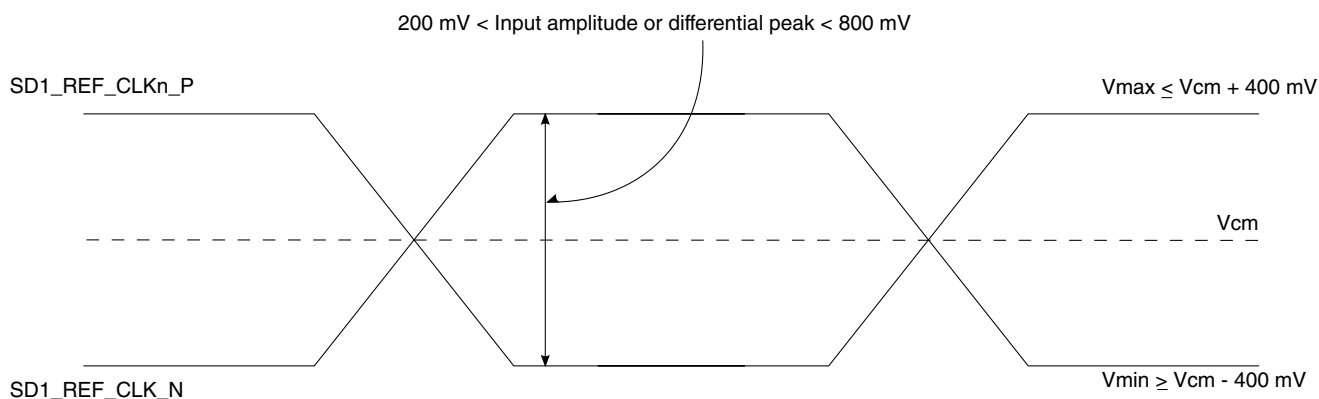

Figure 65. Differential reference clock input DC requirements (external AC-coupled)
- For an external AC-coupled connection, there is no common mode voltage requirement for the clock driver. Because the external AC-coupling capacitor blocks the DC level, the clock driver and the SerDes reference clock receiver operate in different common mode voltages. The SerDes reference clock receiver in this connection scheme has its common mode voltage set to SGND_n. Each signal wire of the differential inputs is allowed to swing below and above the common mode voltage (SGND_n). Figure 65 shows the SerDes reference clock input requirement for AC-coupled connection scheme.